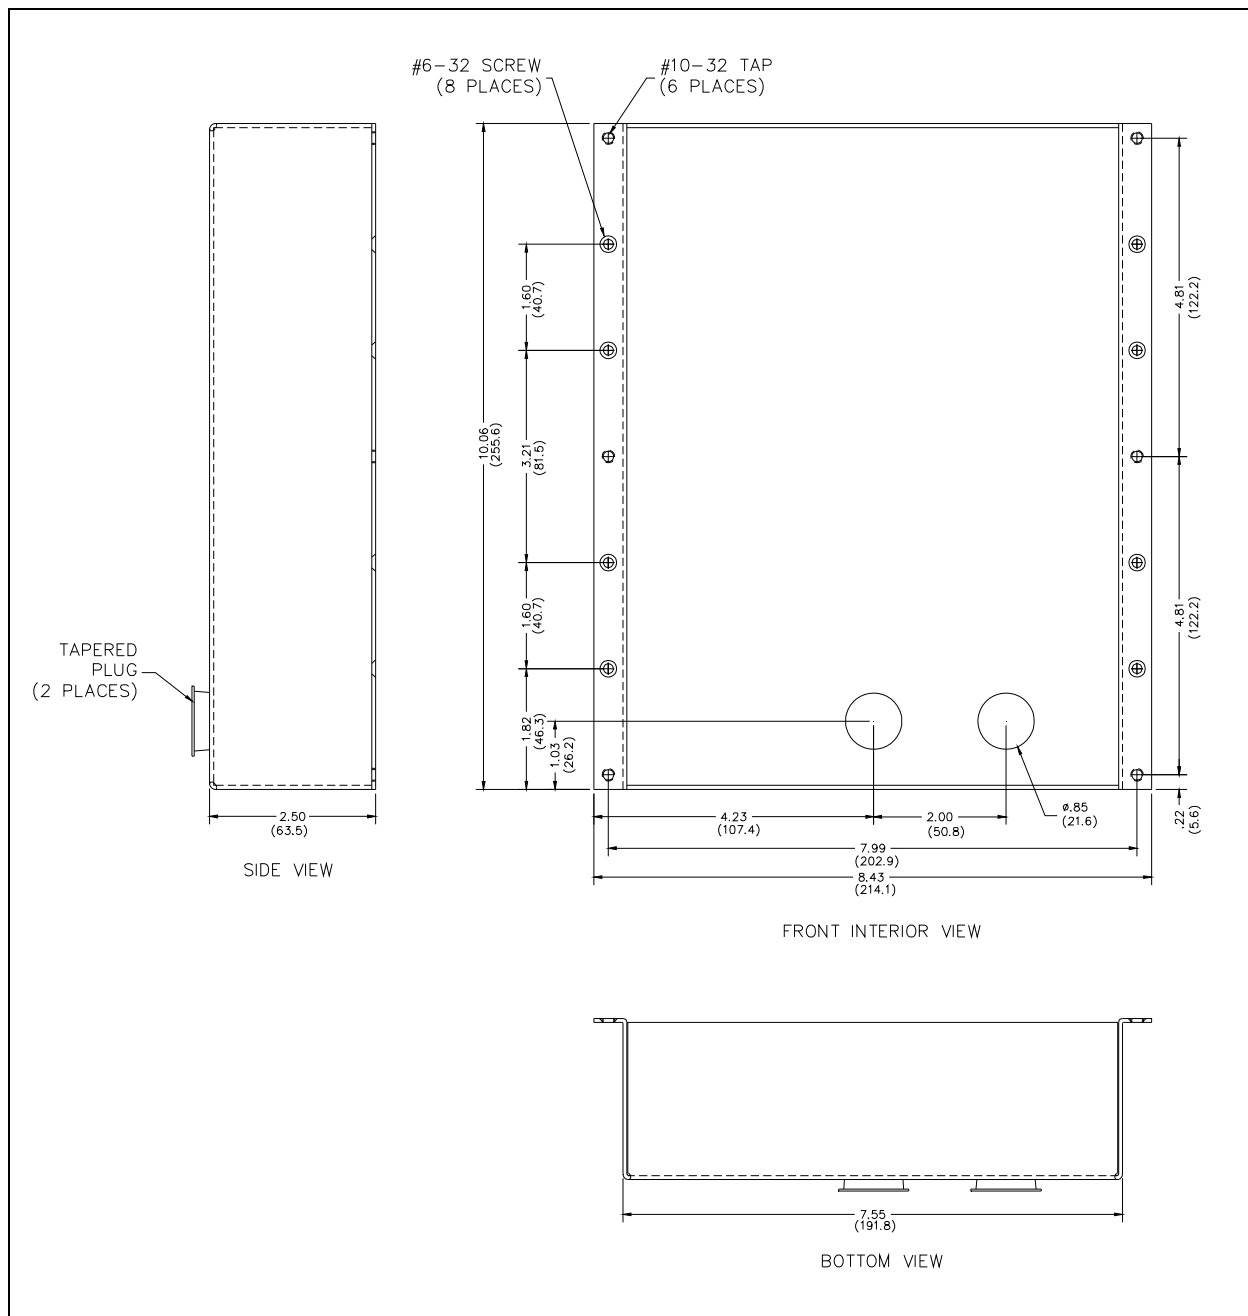

Figure 13. Model 392-001 396-00x, 397-00x, and 398-00x Mounting Details
1. When mounting in a GAI-Tronics Model 234 Series Stanchion, or for flush-mount installations, the supplied back box must be used to mount the Model 397-00x, 396-00x, 398-00x, or 392-001 Telephone. Mount the back box to the structure using appropriate hardware. Refer to Figure 13 cutout dimensions.
4. Connect the telephone's modular plug to a USOC RJ11 or CA11A (Canada) modular connector or (if applicable) the telephone line suppressor. (An inline coupler is provided for use, if necessary.) Refer to Figure 13. Model 392-001 396-00x, 397-00x, and 398-00x Mounting Details for the Model 397-00x, 396-00x, 398-00x and 392-001 component locations.